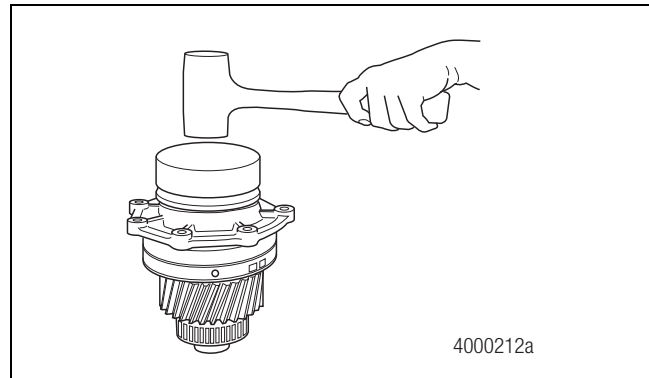

Figure 6.37
6. Install the input seal. Hold the sleeve and seal only on the outer diameter. Position the seal onto the input seal driver and align it with the shaft. Do not touch the lips in the inner diameter of the seal. Use a dead-blow hammer and the appropriate driver to install the seal onto the input bearing cage. Figure 6.37.